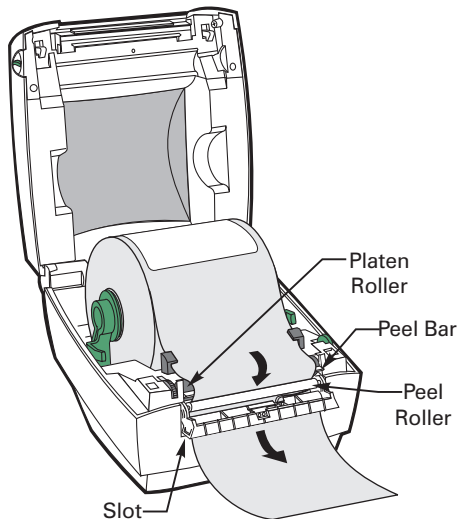

Figure 13
8. Thread the label backing between the black platen roller and white peel roller until it comes out of the slot beneath the peel-off unit (refer to Figure 13).